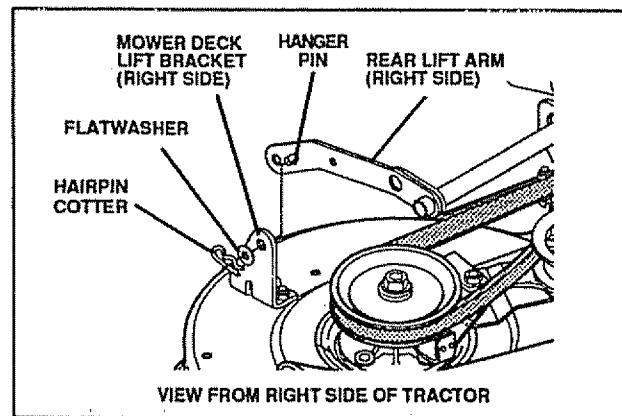

FIG. 19
- Remove hairpin cotter and flatwasher from hanger pin of right rear lift arm and slide off right mower deck lift bracket (see **FIG. 19**).
- Remove hairpin cotter and flatwasher from hanger pin of left rear lift arm and slide off left mower deck lift bracket (see **FIG. 19**).
- Place cutting height adjustment lever in lowest position. **NOTE:** Be sure left and right lift arms are to the inside of left and right deck lift brackets (see FIG. 19).
- Lift deck slightly and flex right rear hanger pin inward to snap hanger pin into right deck lift bracket slot. Secure hanger pin in place with flatwasher and hairpin cotter removed earlier (see FIG. 19).